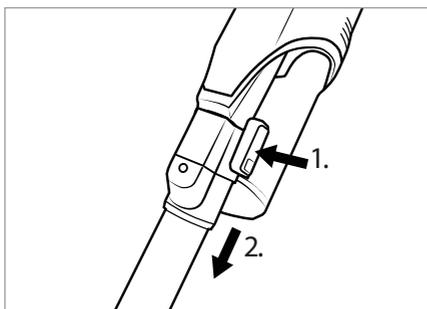

Fig. 11
- ◆ To remove the suction pipe **23** from the appliance, hold down the suction pipe release button **24** and pull the suction pipe **23** off the suction opening of the appliance (see Fig. 11).